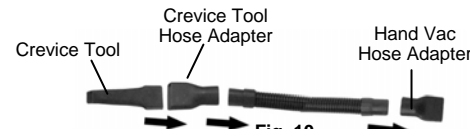

Fig. 10
2. Insert one end of the flexible hose into the hand vac hose adapter and the other end into the crevice tool adapter. (Fig. 10)